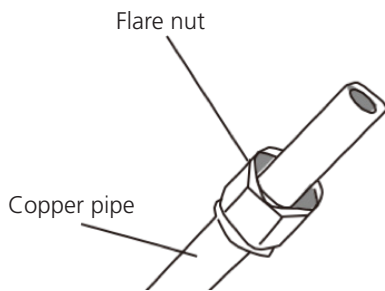

Fig. 6.3
3. Place flare nuts on both ends of pipe. Make sure they are facing in the right direction, because you can't put them on or change their direction after flaring. See Fig 6.3.